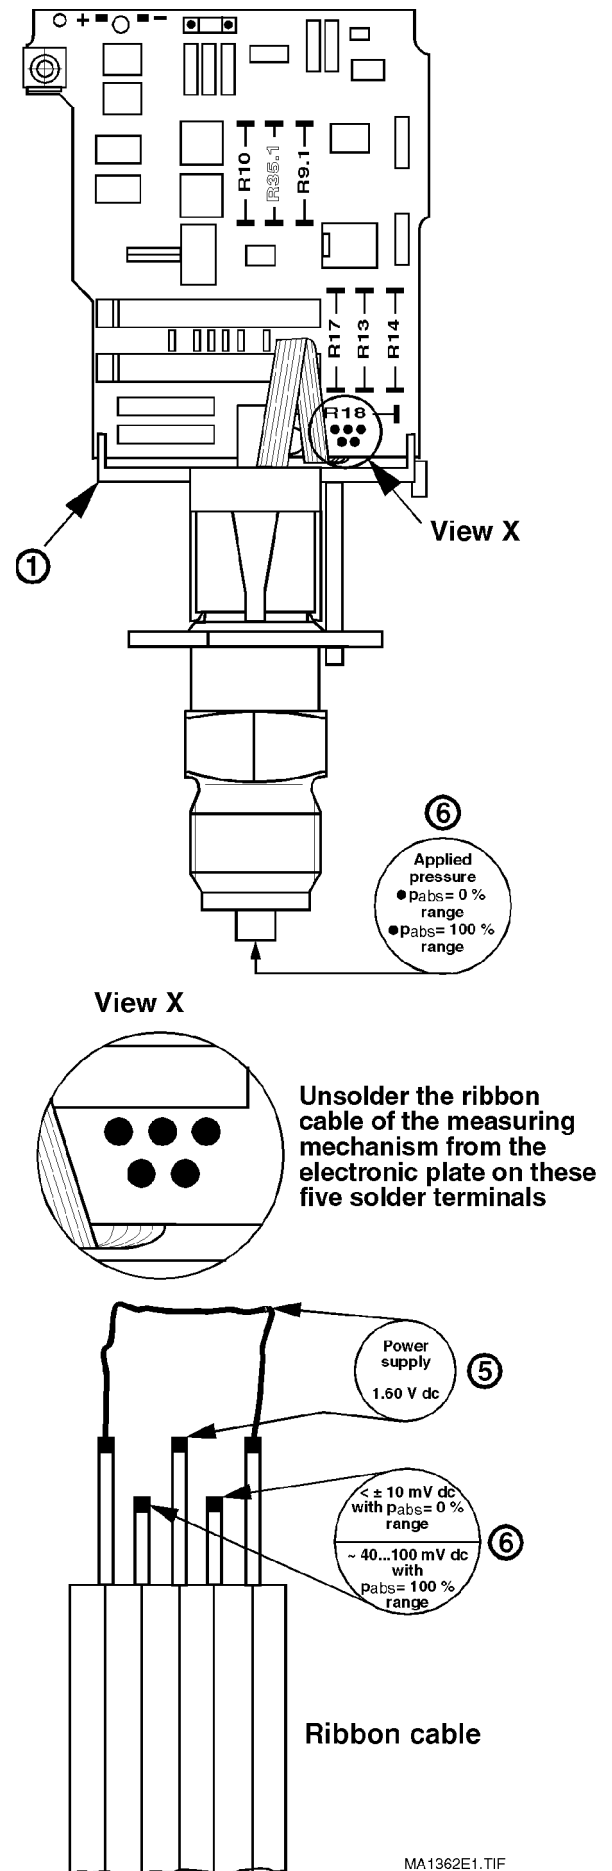

Fig. 22. Measuring mechanism / electronic unit of the AMD 210
(see Fig. 22)**
2. Unsolder the wiring between the measuring mechanism and electronic on the electronic pcb (ribbon cable-Fig. 22-View X).
4. Connect the two outer wires with each other (Fig. 22 - view X).
5. Apply a voltage of **1.60 Vdc** to the "connected wires" and the "middle" wire (Fig. 22).
2. Unsolder the **ribbon cable** between the measuring mechanism and the electronics on the electronic pcb (5 solder terminals, see Fig. 22). Observe soldering instructions!